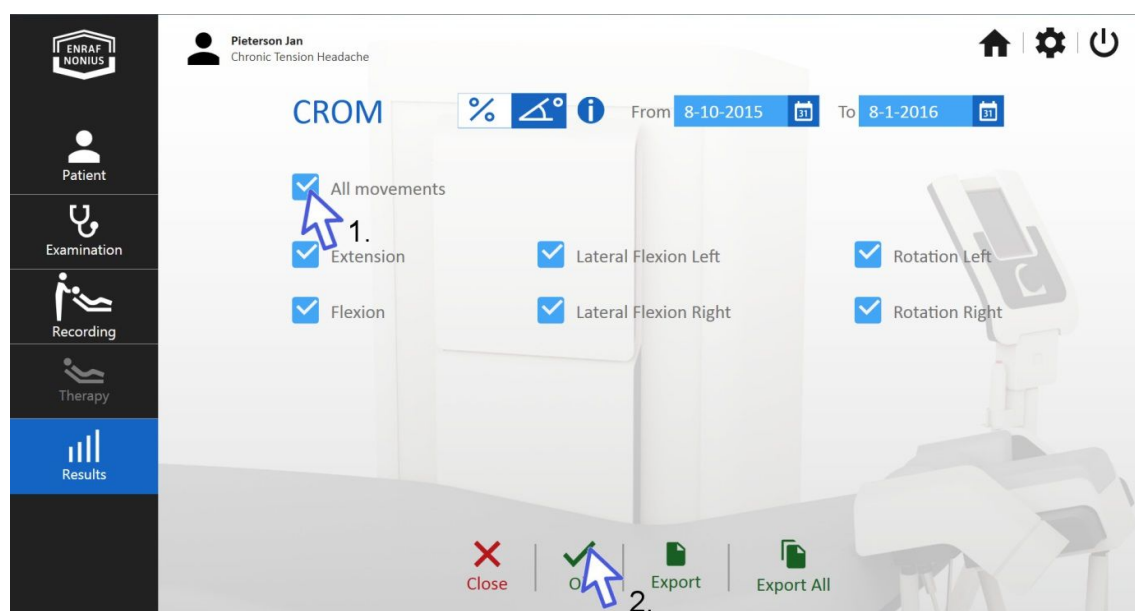

fig. 71
- Select “All Movements” (1.) and confirm with “OK” (2.) (fig. 71).